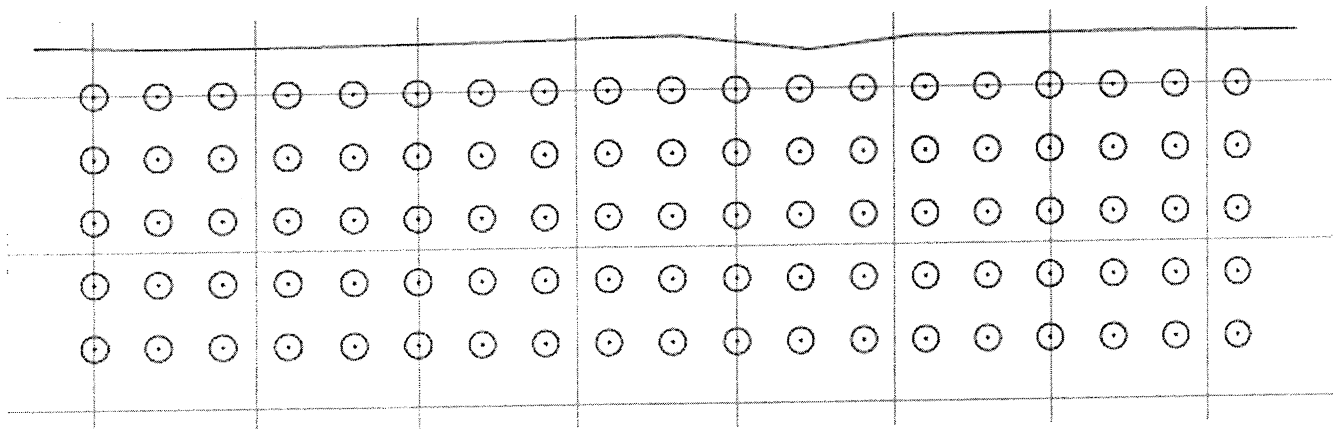

Figure 1. Plan view of blast
Figure 1 shows a plan view of a blast in an iron mine. The rock is an iron ore with density of 3.2 g/cm³, considered massive with UCS (uniaxial compressive strength) of 300 MPa, Young's modulus of 110 GPa and p-wave velocity of 6 km/s. The diameter of the boreholes is 406 mm and the bench height is 12 m.
- Using the drill pattern of Figure 1 suggest tie-ins and delays to be used.